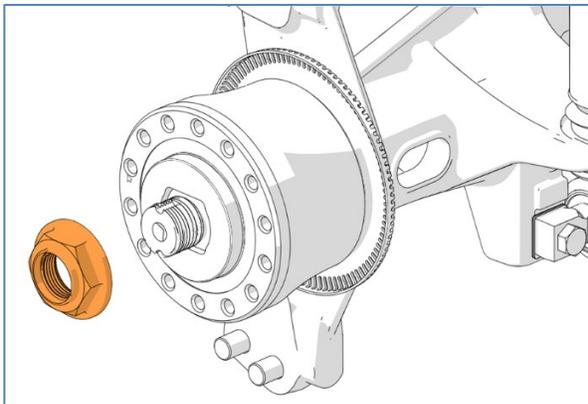

Figure 18
18. Unscrew hub nut and discard (Figure 18).